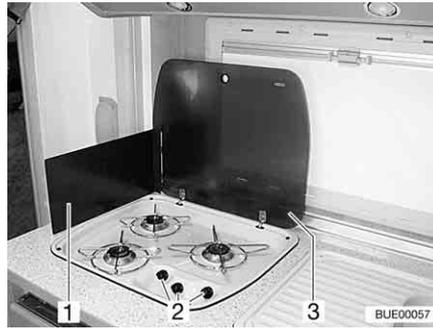

Fig. 210 Gas cooker
- Open the gas cooker lid (Fig. 210,3).
- Depending on the model, either fold out or set up the flame protection (Fig. 210,1).
- Turn the control knob (Fig. 210,2) on the burner you wish to use to the ignition position (large flame).